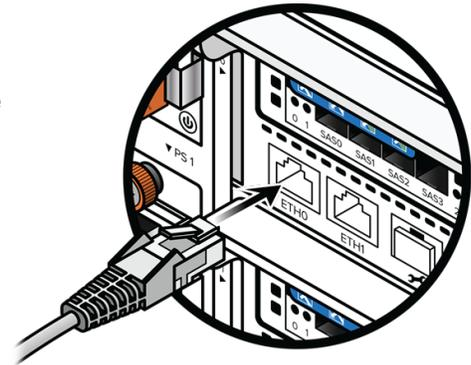

Figure 7-13. Connecting 1-GbE Cables
1. Connect the 1GbE management cable to the **ETH0** port on the controller. See Figure 7-13.